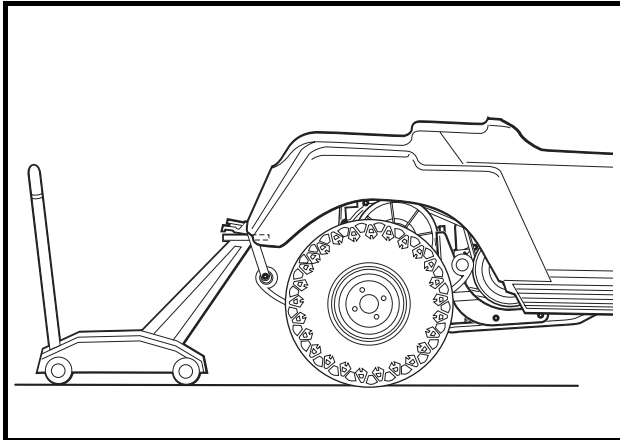

Figure 16-24 Raise Vehicle
10. Continue raising vehicle until frame or trailer hitch is higher than the top of the unitized transmission (enough to allow transaxle and engine to be rolled under and out of vehicle) (**Figure 16-24, Page 16-11**).